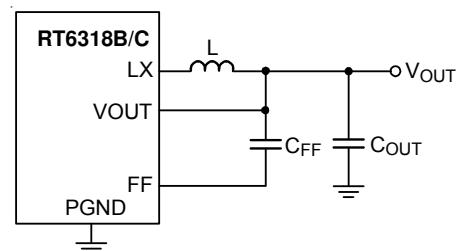
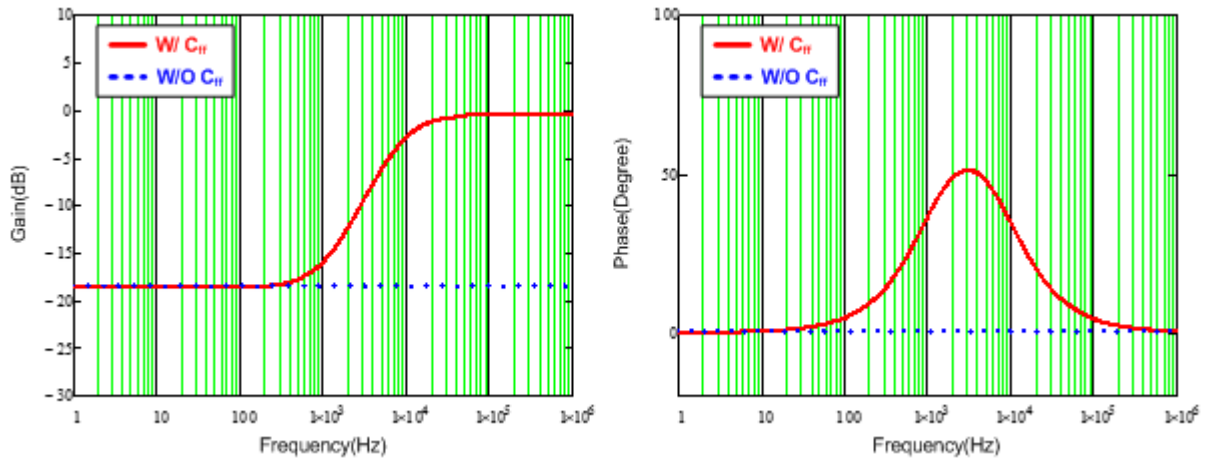

Figure 4. Feedback Loop with Feedforward Capacitor
Figure 5. Bode Plot with Different Feedback Loop Conditions
For saving time to design compensator and reducing the layout area through external components, the components of compensator are integrated in IC. However, this integrated compensator might not suit to every load transient spec. Hence, for the RT6318B/C to be more adaptable, the feedforward capacitor CFF is used in the feedback loop to improve transient response, as shown in Figure 4. Figure 5 shows the comparison result of bode plot with different feedback loop conditions. Referring to Figure 5, through connecting a CFF in feedback network, the gain and phase are raised in mid-frequency that not only can extend the bandwidth, but boost the phase margin as well. Moreover, there is also a high frequency pole to eliminate high frequency noise. Consequently, those features of feedforward feedback network allow the RT6318B/C have faster response to handle different load transient.
Observing Figure 5, the maximum phase boost occurs between zero and pole frequencies that is defined as maximum phase boost frequency, as expressed in equation (4). Hence, in order to achieve the maximum phase boost by adding  $C_{FF}$  in the RT6318B/C, the system's original bandwidth has to be located at maximum phase boost frequency.